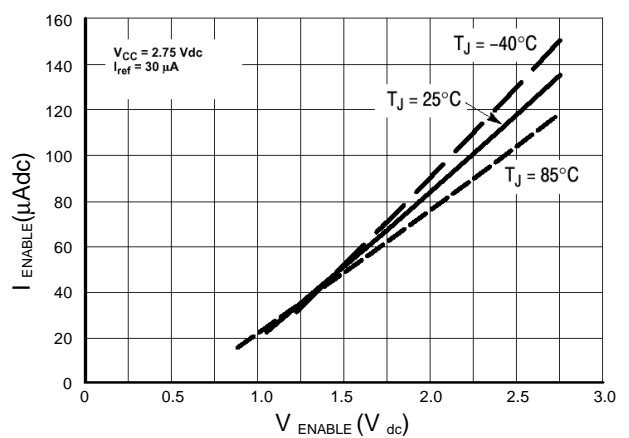

Figure 5.  $I_{enable}$  versus  $V_{enable}$
- Step 2: Insure that Min  $V_{ENBL}$  is . minimum indicated in Figures 5 and 6.
- Step 2: Insure that Min  $V_{ENBL}$  is  $\geq$  minimum indicated in Figures 5 and 6.